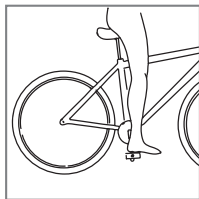

Fig. 9. Properly adjusted seat height
- The seat is located at proper height if your leg is stretched to the maximum. However, you must not lean down on the seat to reach the pedal or to lift the heel off pedal. Fig. 9.